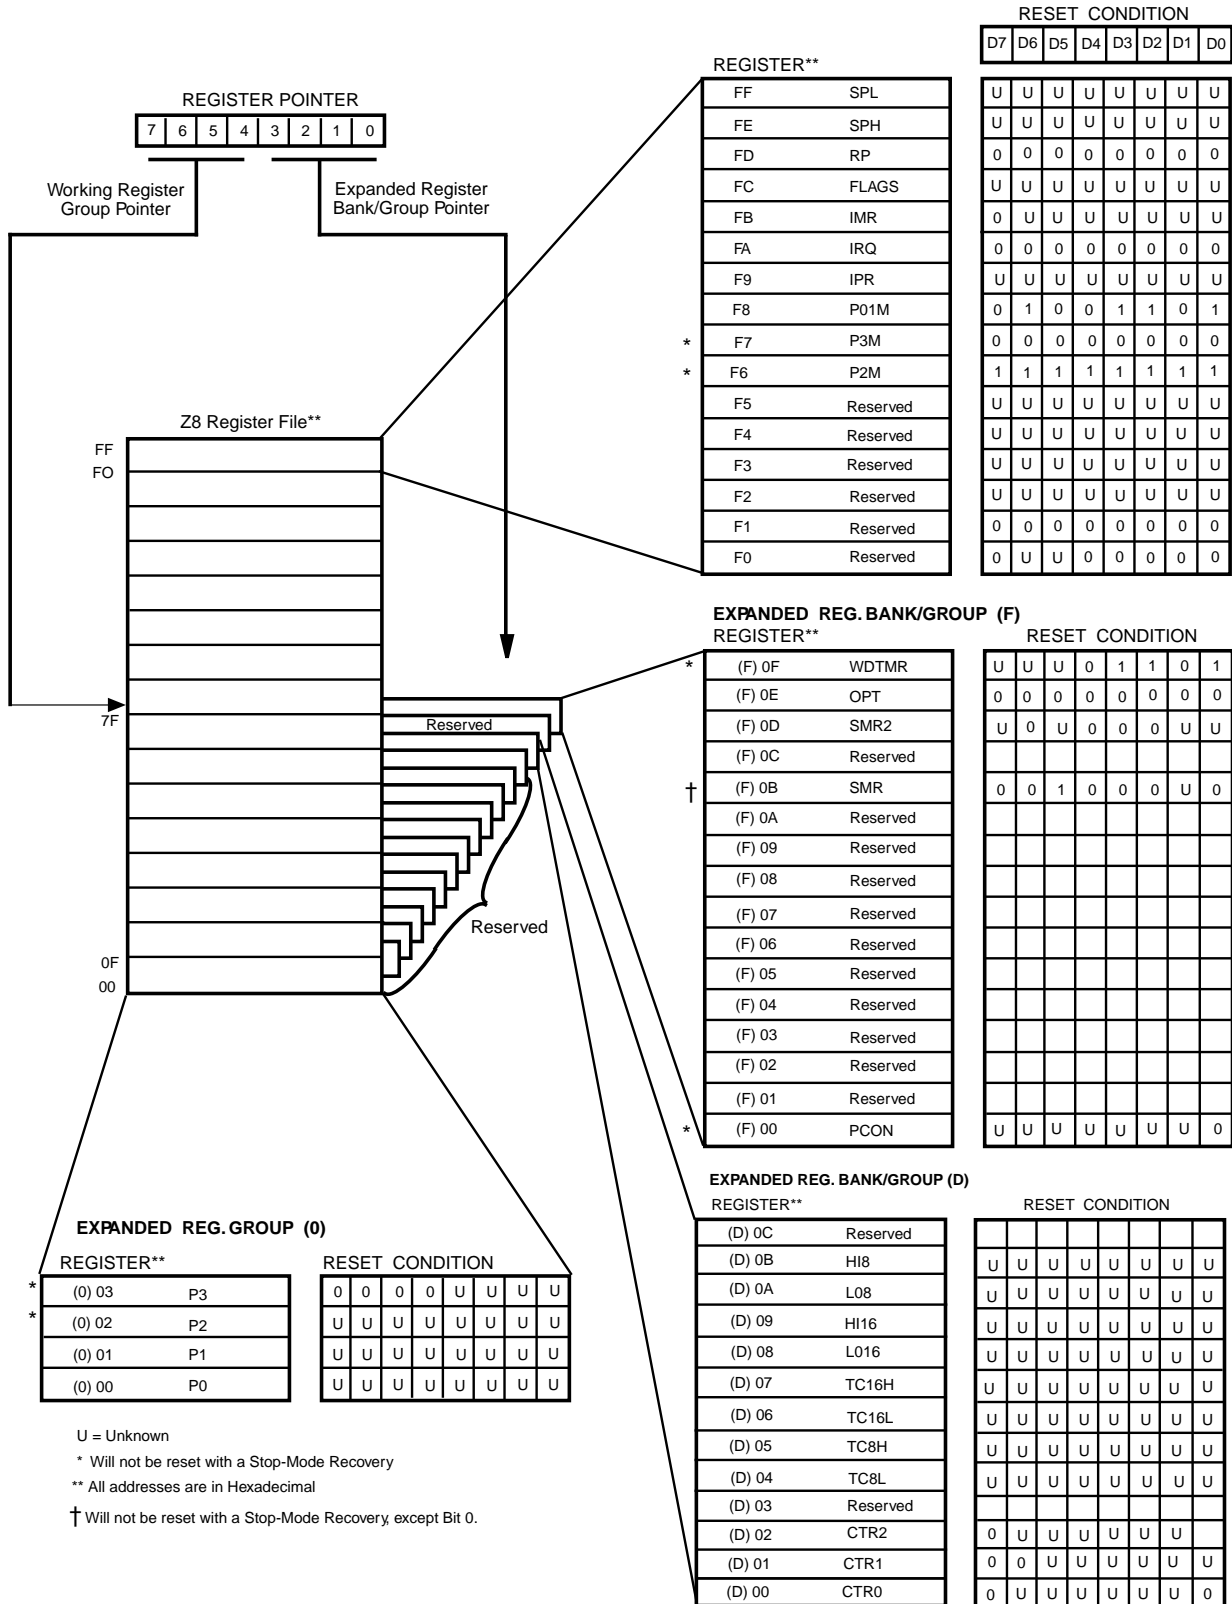

Figure 22. Expanded Register File Architecture
**Comparator Outputs.** These may be programmed to be outputted on P34 and P37 through the PCON register (Figure 22).